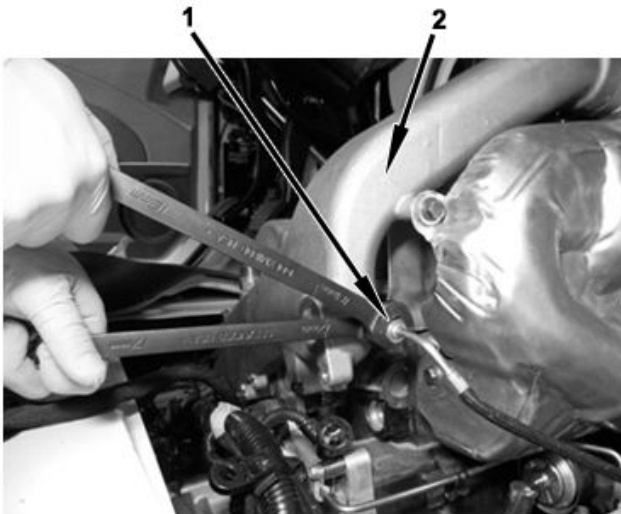

Figure 37. Coolant Manifold.
18. Install Hydrocarbon Injector (HCI) coolant supply tube nut (Figure 37, Item 1) to the coolant manifold (Figure 37, Item 2) and torque to 18 lb-ft (24 N·m).